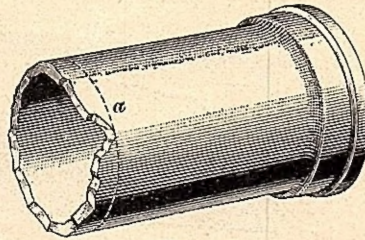
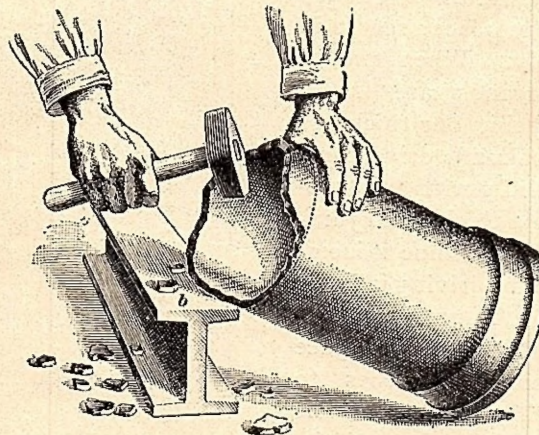

FIG. 3
FIG. 4
3. It sometimes happens that a pipe is defective and will not cut square, breaking crooked, as shown in Fig. 3. Such a piece should not be used, but may be cut again when a shorter piece is required. Or, if circumstances permit the pipe to be shortened, say to the dotted line *a*, the end may be **chipped down**, as shown in Fig. 4. The piece
end is square. The edge obtained by chipping is rough, but if well done, the irregularities need not be more than $\frac{1}{8}$ inch deep. A break like that shown in Fig. 3 is usually due to an unskilful manipulation of the tools; it does not necessarily indicate a defective pipe.
before running the joint with lead to see that the pipe has not slipped out. This is most liable to occur when calking horizontal joints on the floor. Another defective joint is that in which a poorly cut pipe like that shown in Fig. 3 is used.